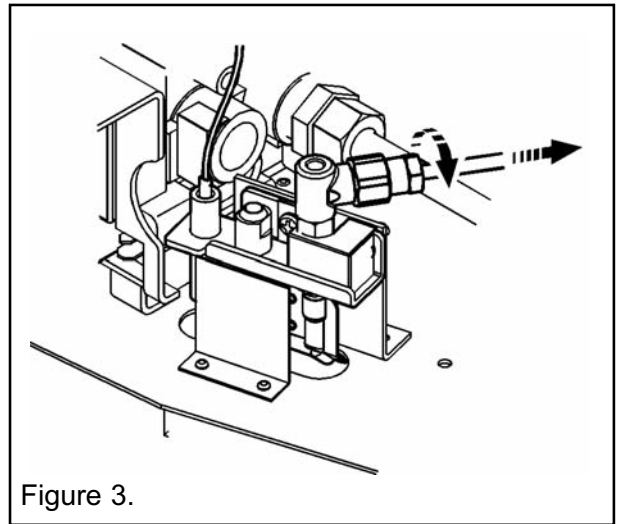

Figure 3.
- d) Remove the feed pipe from the pilot unit (see figure 3).